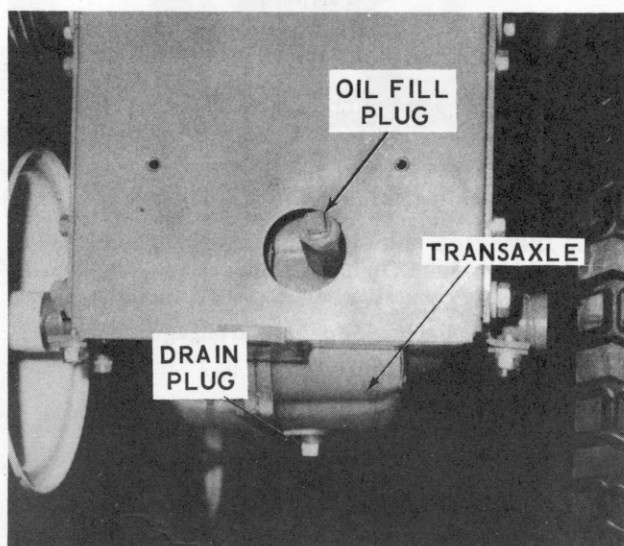

Figure 2
Check oil level in the transaxle (Figure 2). If required, add oil to reach a level where the oil is in the filler tube. Be sure unit is on level surface when checking. Use Ariens Premium Gear Lubricant MP90.
b. Transaxle. Periodically remove the oil fill plug and check the oil level. See figure 2. When required, add oil to a level where the oil is in the filler tube. Be sure tractor is on level surface when checking. Every 200 hours or 2 years, whichever comes first, remove the transaxle drain plug and drain all oil. Replace the plug and add 48 ounces of Ariens Premium Gear Lubricant MP-90 through the filler hole.